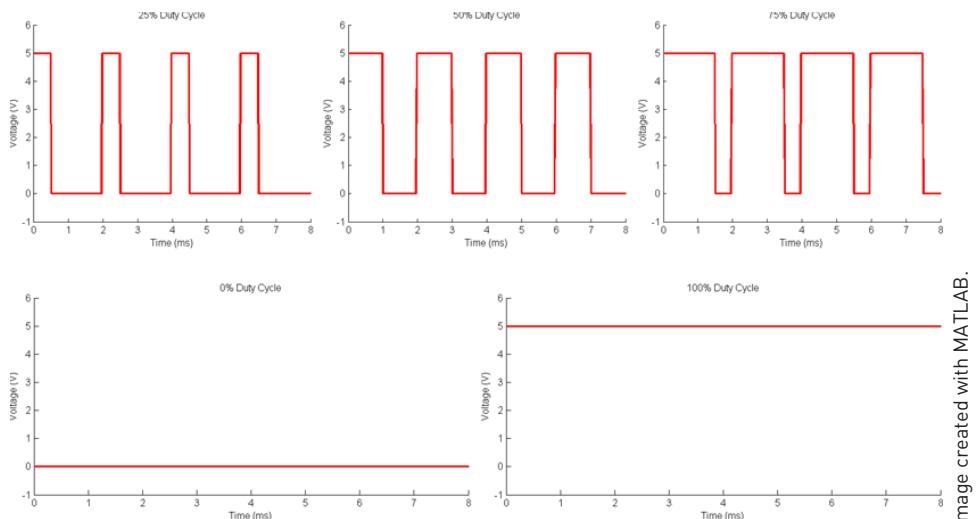

Figure 2-4: PWM signals with varying duty cycles
PWM control can be used in lots of circumstances to emulate pure analog control, but it cannot always be used when you actually need an analog signal. For instance, PWM is great for driving direct current (DC) motors at variable speeds (you experiment with this in later chapters), but it does not work well for driving speakers unless you supplement it with some external circuitry. Take a moment to examine how PWM actually works. Consider the graphs shown in Figure 2-4.
The graphs in Figure 2-4 show that for a signal with a duty cycle of 25 percent, it is high 25 percent of the time, and low 75 percent of the time. The frequency of this square wave, in the case of the Arduino, is about 490Hz. In other words, the signal varies between high (5V) and low (0V) about 490 times every second.